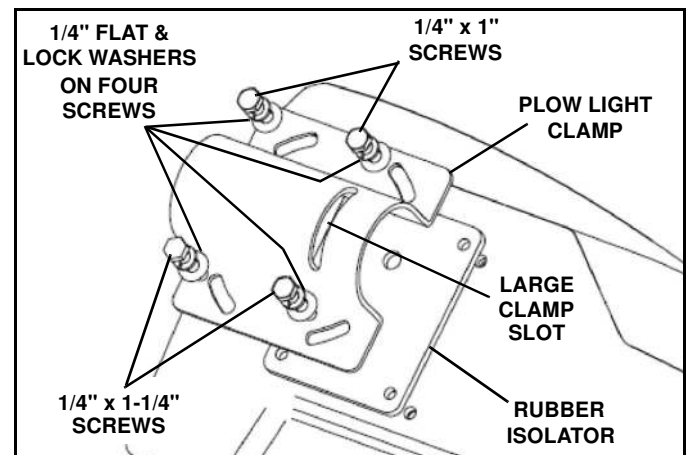

Figure 1-15
3. Position a plow light clamp and rubber isolator on the bottom of each plow light, aligning the corner slots in the clamp with the four holes in the isolator and light housings. (See Figure 1-15)